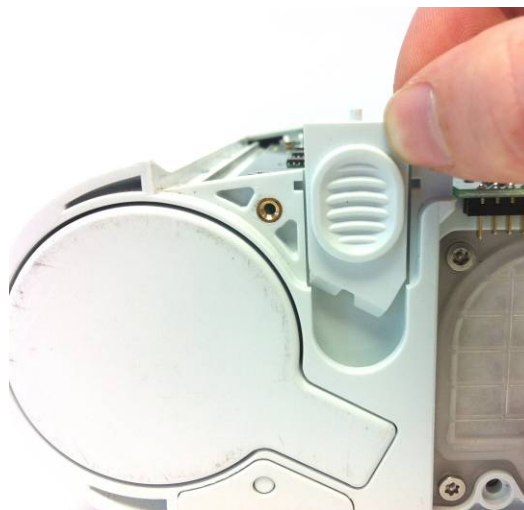

Figure 5: Column latch removal
2. Slide the column latch up to remove it from the chassis (Figure 5).
1. Slide the new column latch into the chassis with the slanted end of the latch pointed downward and the small circular spring attachment on top (See figure 5 for orientation).